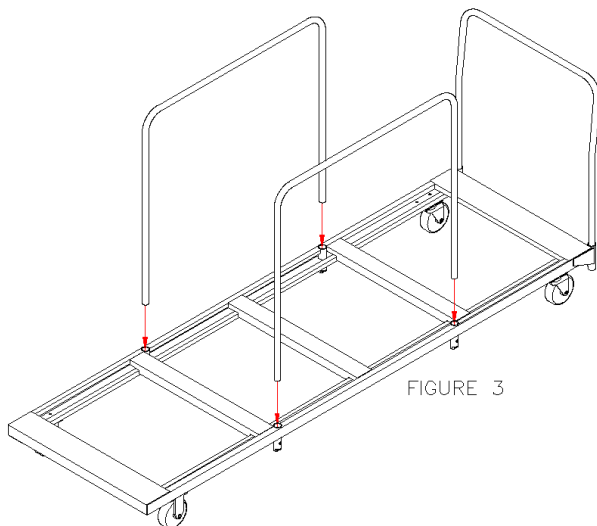

FIGURE 3
4. Insert the Side Handles into the sockets on the sides of the Base (See Figure 3).